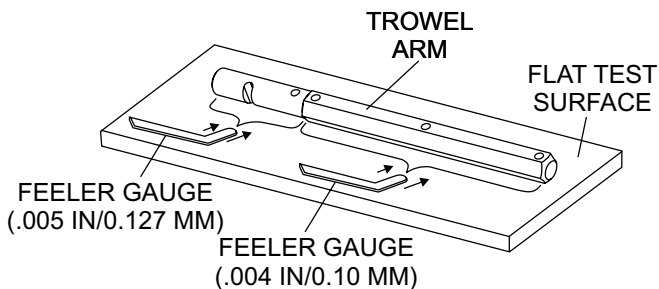

Figure 61. Checking Trowel Arm Flatness
1. Use a thick steel plate, granite slab or any surface which is true and flat, to check all six sides of each trowel arm for flatness (Figure 61).